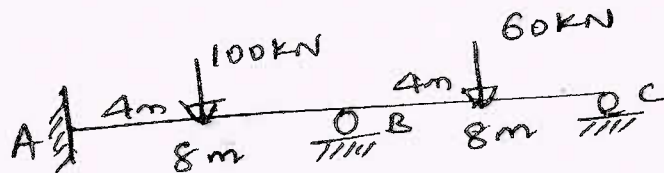

Fig.Q9
- 9 Using displacement method, analyze the continuous beam shown in Fig.Q9 and sketch BMD.